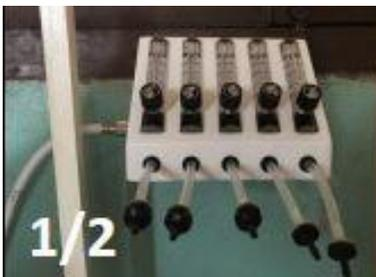

Figure 1: Oxygen concentrator with flow splitter
**Figure 1:** Circular antibacterial filters attached between the flow splitter and each humidifier. This is not necessary unless the patients are infectious by air transmission (e.g. tuberculosis).